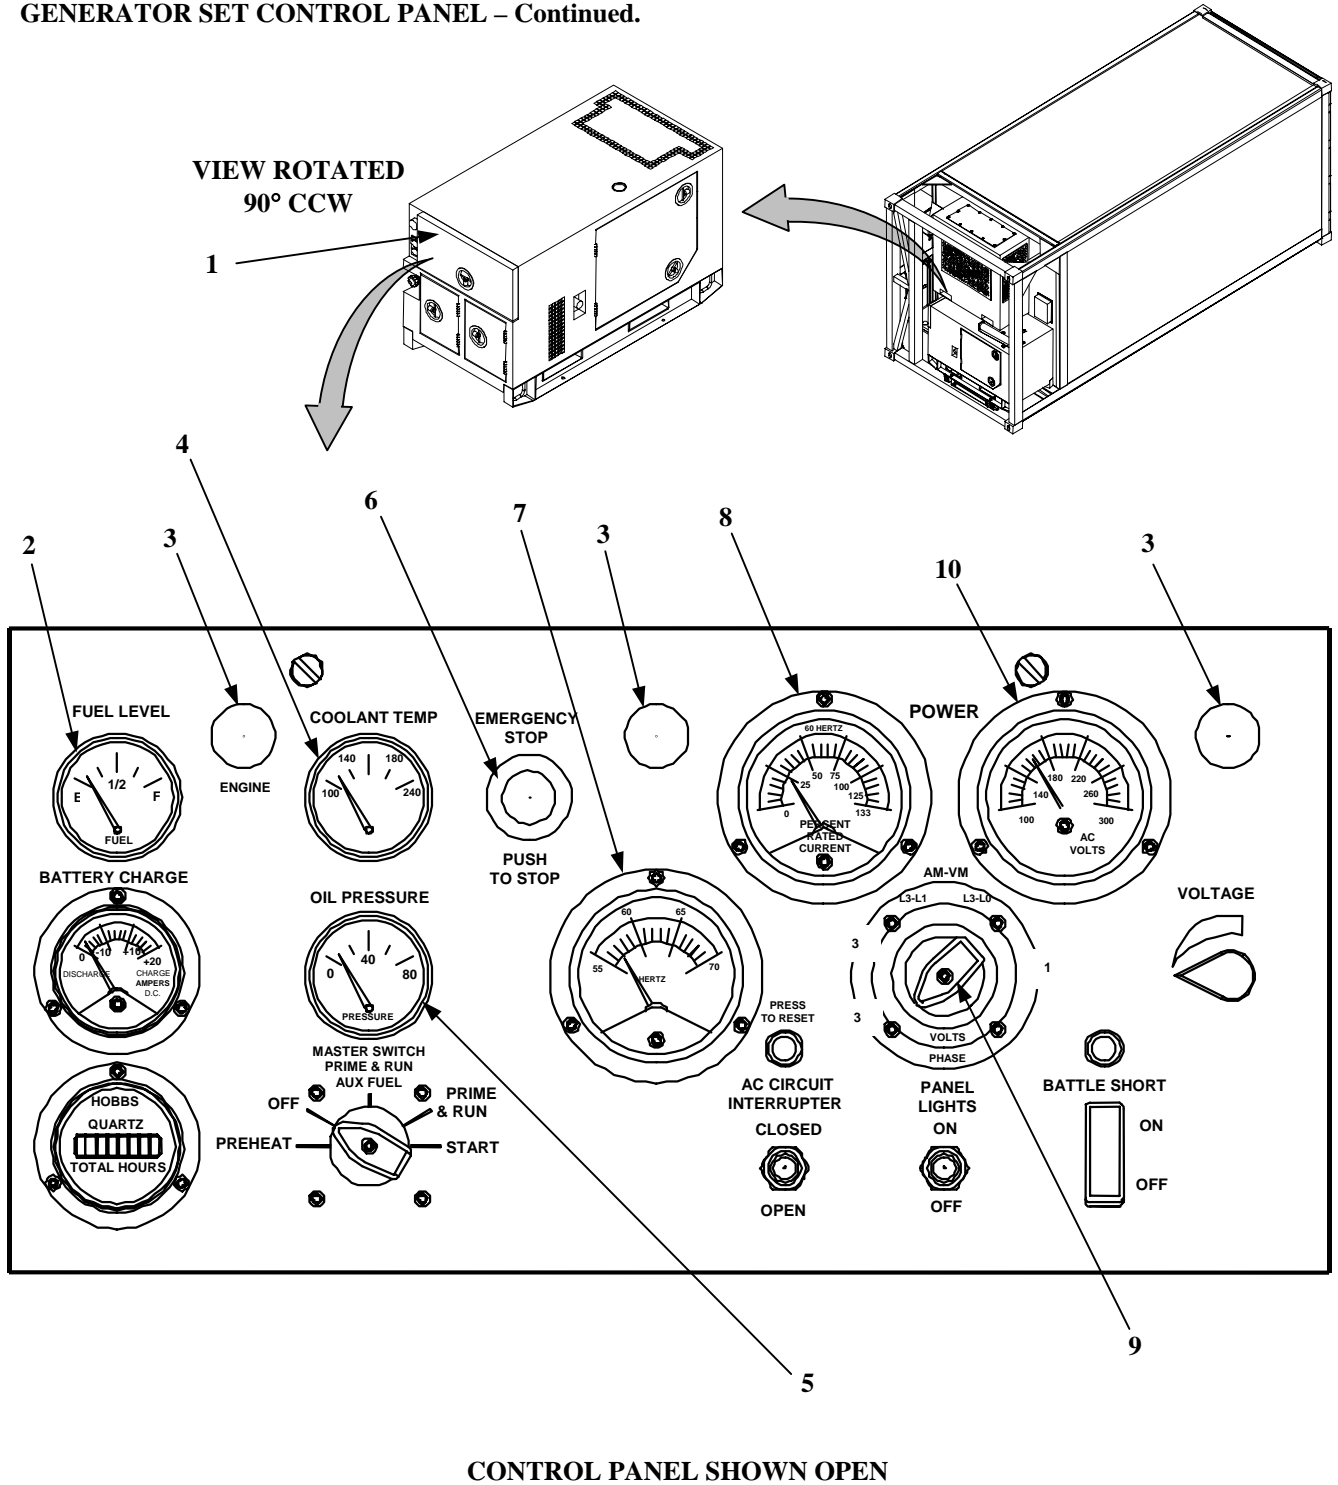

Figure 4. – Control Panel and Indicators (Sheet 1 of 2)
GENERATOR SET CONTROL PANEL (Figure 4).
GENERATOR CONTROL PANEL (Figure 4) – Continued.**VOLTAGE ADJUST POTENTIOMETER (11).**